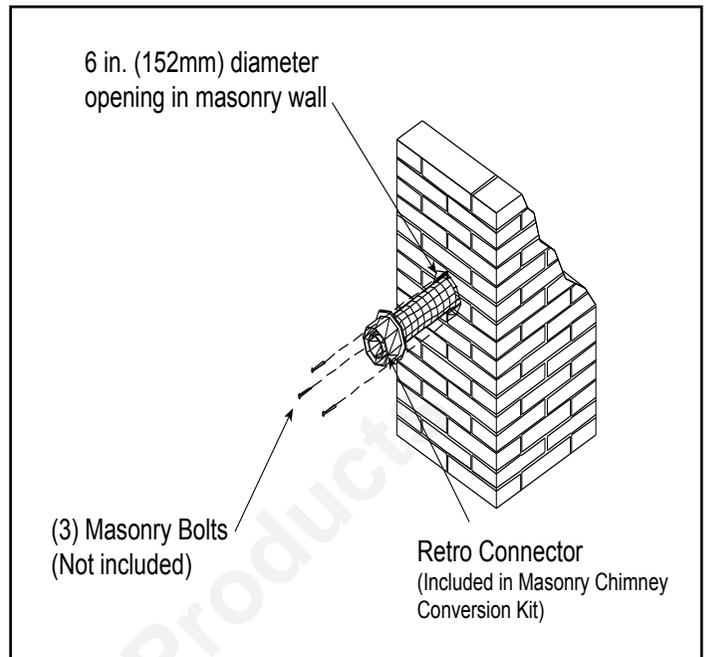

Figure 4.27
- Attach the flex to the retro connector. Use three sheet metal screws to attach the flex liner to the connector. Mount the retro connector to the masonry wall using masonry bolts. See Figure 4.27. Redrill larger holes on connector as needed. Be careful to ensure that the connector is centered in the opening and the mounting holes line up with the masonry wall.